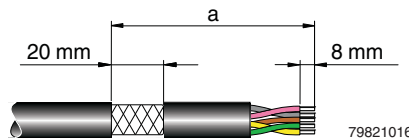

Figure 6-5 Connecting the shielded cable
- Strip approximately 20 mm off the outer sheath of the cable at the required distance from the end of the cable (a in Figure 6-5).